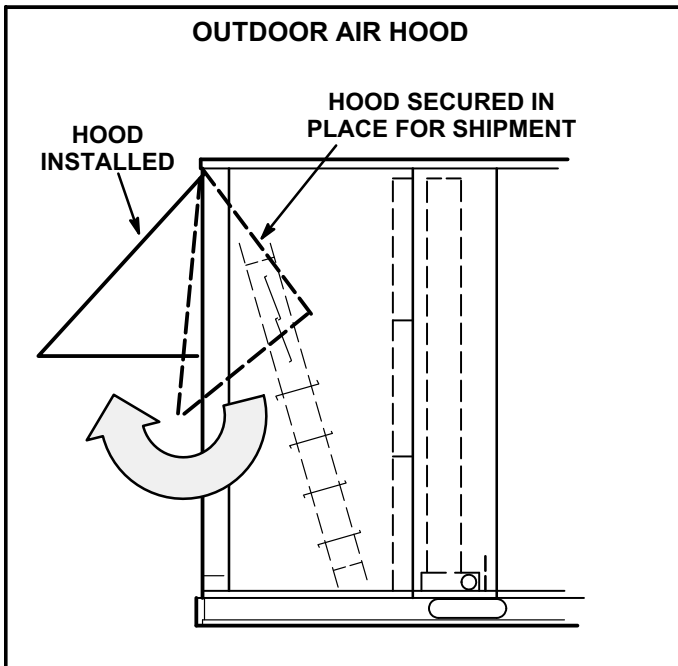

FIGURE 9
- 2- Pivot hood as shown in figure 9 and secure sides of hood to unit mullions with two sheet metal screws on each side.